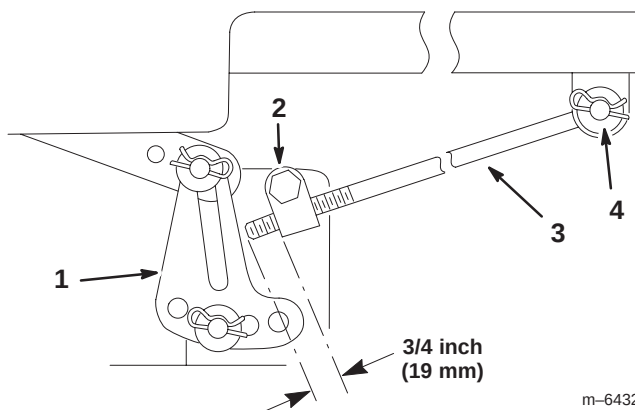

Figure 42
5. Measure the length of the rod extending out of the adjusting block on the sides of the chassis (Fig. 42).
6. If the rod length is **not** a 3/4 inch (19 mm), remove the hairpin cotter and washer from the end of the adjusting rod (Fig. 42) and turn the rod until the 3/4 inch (19 mm) dimension is obtained.